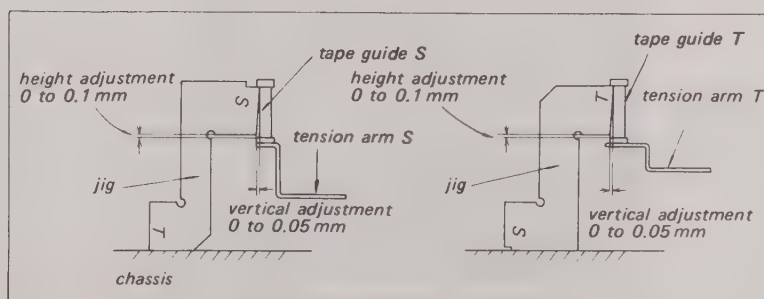

Fig. 5-19. Tension arm adjustment
1. Check for perpendicularity and height of Tension Arm S with the jig (Part No. 3-702-206-01). Place the short base of the jig against the main chassis to the left of the Capstan Bearing as shown in Fig. 5-19.
3. To check for perpendicularity and height at Tension Arm T, reverse the jig as shown in Fig. 5-19. Remove one mounting screw from the Guide Rail to make room for the jig.